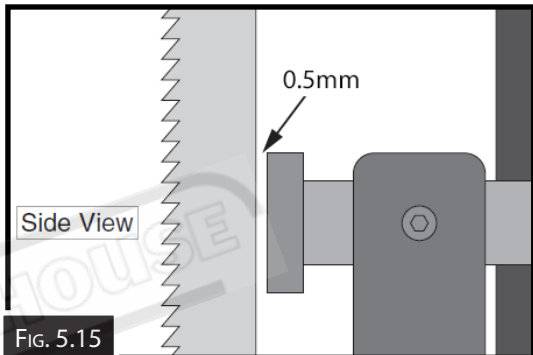

FIG. 5.15
5. Adjust the support bearing 0.5mm away from the back of the blade, as illustrated in Fig. 5.15